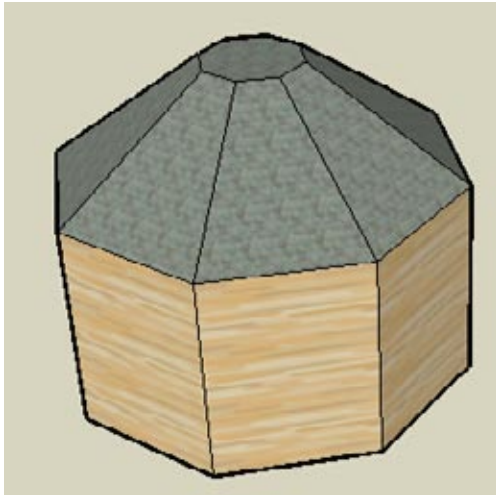

Figure 1-40
1. Start with an octagon-shaped building as shown in Figure 1-40, with a sloped octagonal roof. You can create your model from scratch, or download my Circular Array model from the 3D Warehouse.